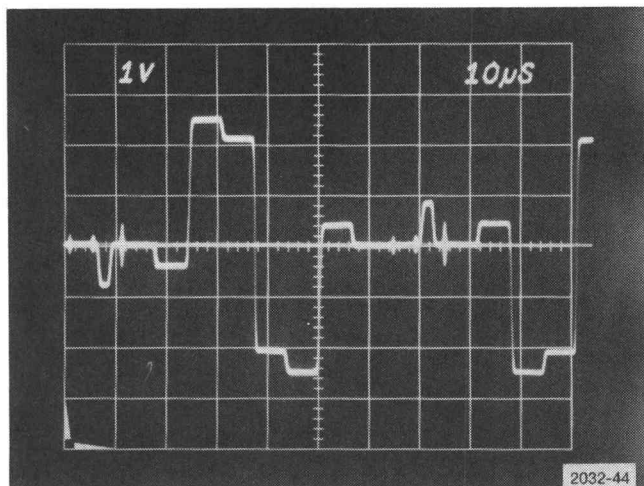

Fig. 5-33. Typical waveform at TP1919.
b. ADJUST—L1821 and L1827 R-Y (V) Filter for best transient response of the demodulated R-Y (V) chrominance. See Fig. 5-33.